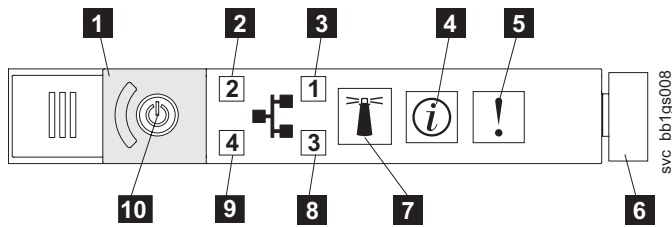

Figure 83. SAN Volume Controller 2145-CF8 operator-information panel
1. **Is the Error LED, shown in Figure 83 on page 241, on the SAN Volume Controller 2145-CF8 operator-information panel on or flashing?**